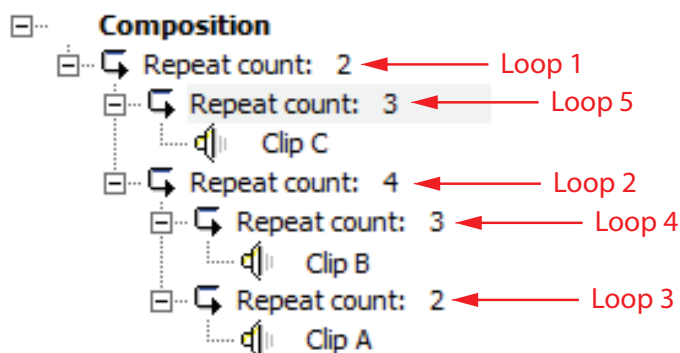

Figure 77 Nested loop example
14. The composition should look like this (Figure 77):